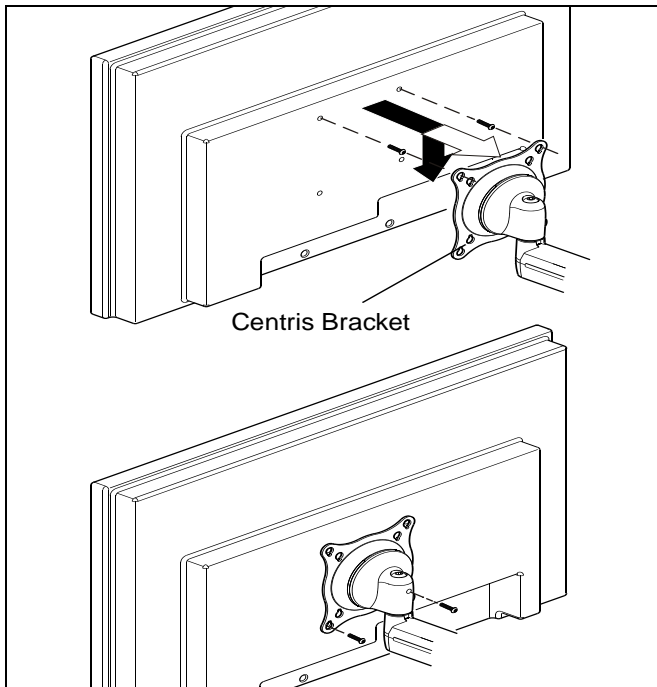

Figure 1
2. Remove the four M4 x 12mm or M4 x 8mm screws from the Centris bracket and carefully remove the display. (See Figure 1)
6. Replace the four screws removed from the Centris bracket with four M4 x 12mm button head security screws (G) or M4 x 8mm (F) included in this kit. (See Figure 1)